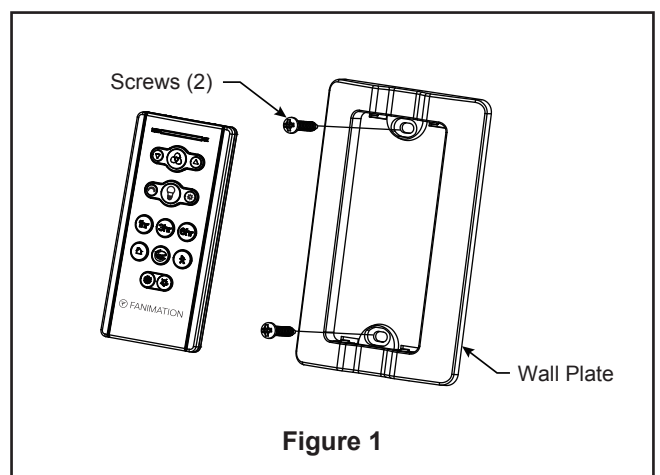

Figure 1
1. Installing Wall Plate: (Figure 1)
1. Visit the Apple APP Store or the Google Play Store to download the free fanSync WiFi APP. (Figure 1)